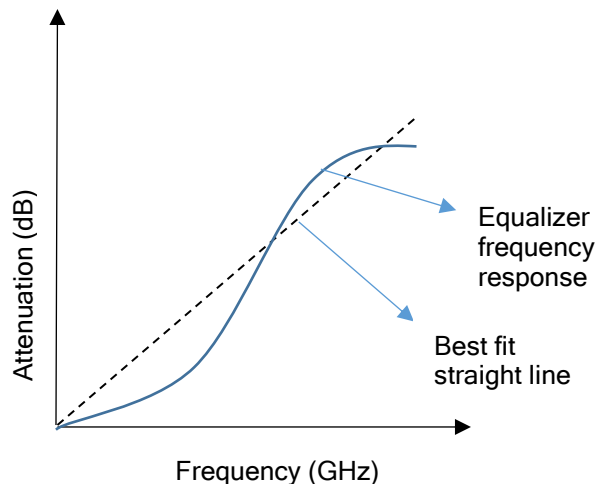

Figure 2: Positive slope equalizer
- **Positive Slope Equalizers (Figure 2)** exhibit an insertion loss response with a positive slope vs. frequency. This type of equalizer is used to equalize amplifiers or systems with positive gain slope.